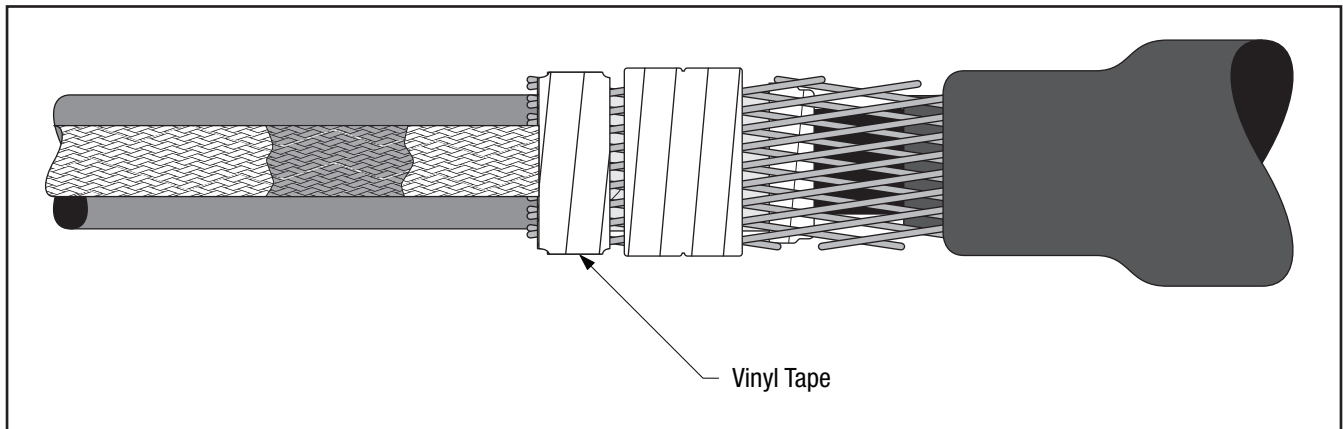

Figure 18
- 6.3 Overwrap the spring with two layers of stretched vinyl tape (*Figure 18*).